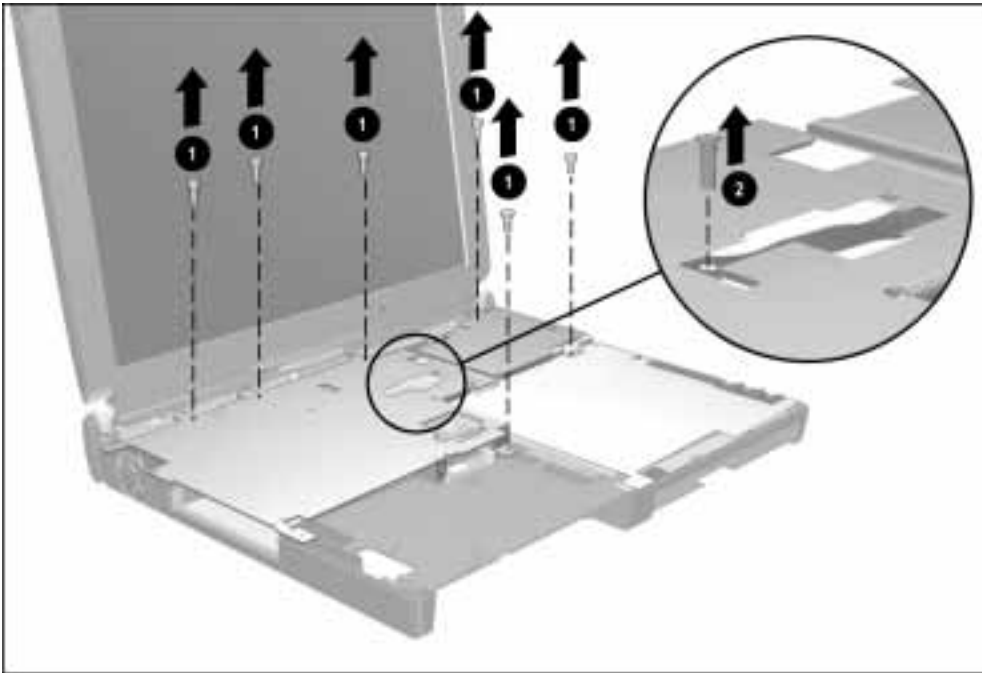

Figure 5-21. Removing the Heatpipe Mount Leaf Spring and EMI Shield Screws
8. Remove the six screws securing the EMI shield to the base assembly ❶ (Figure 5-21).
9. Remove the screw ❷ that secures the heatpipe mount leaf spring ❸ to the processor assembly.